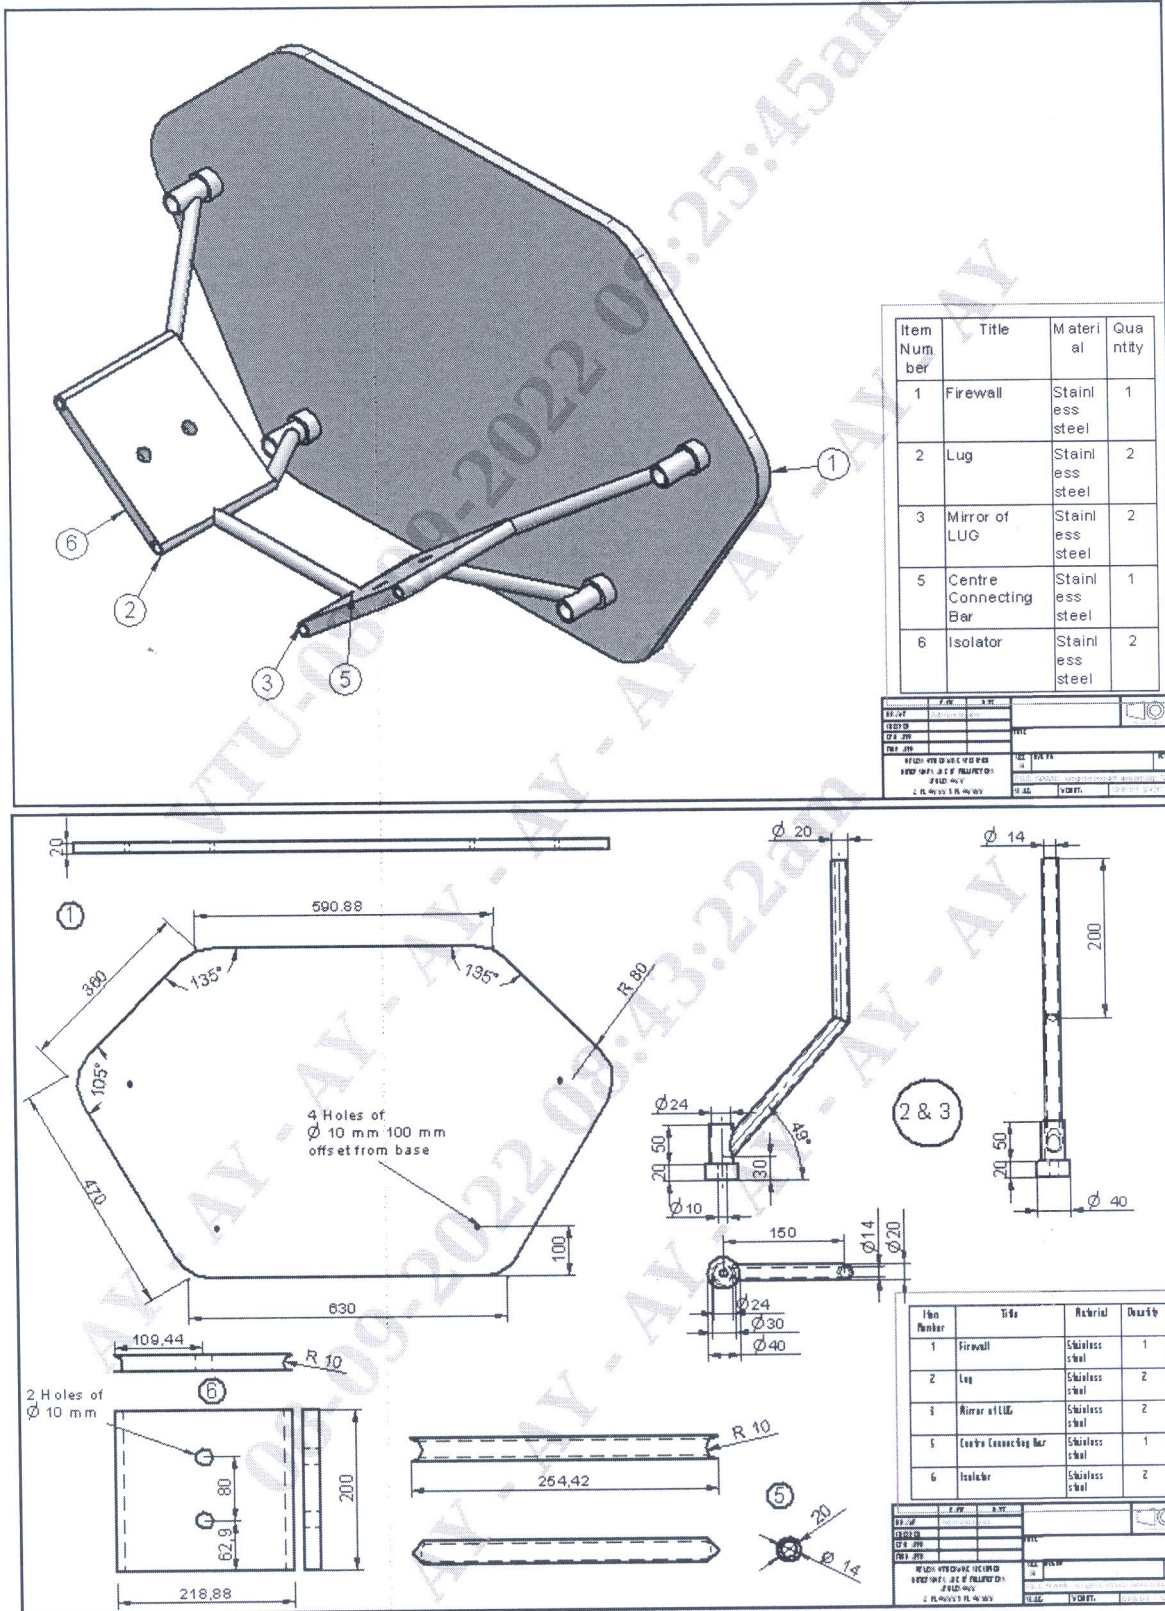

Fig 2.
6. The details of a ENGINE MOUNT ASSEMBLY are shown in fig2. Draw front, top and left views of the assembly. **60 marks**